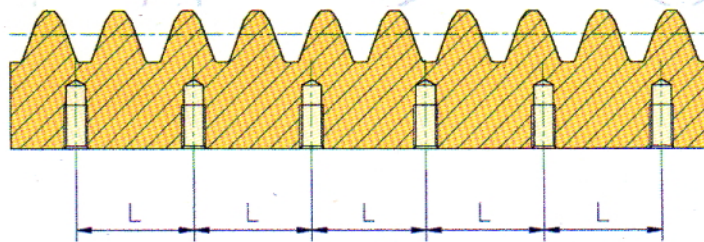

Figure 3
■ **Method A** attaches the rack from underneath. See Figure 3. This method is favored because the rack is rigidly fastened and supported. The support prevents deflection and movement of the pitch line that can be caused by inherent gear separating forces that occur during operation. The attachment is accomplished with screws into threaded holes in the rack. Attachment from the bottom is preferred. If the attachment holes must be in the top (gear tooth) side, the attachment holes must be centered in the root of the rack teeth. The face width of the rack must also be increased to compensate for tooth strength lost because of the holes in the root of the teeth.